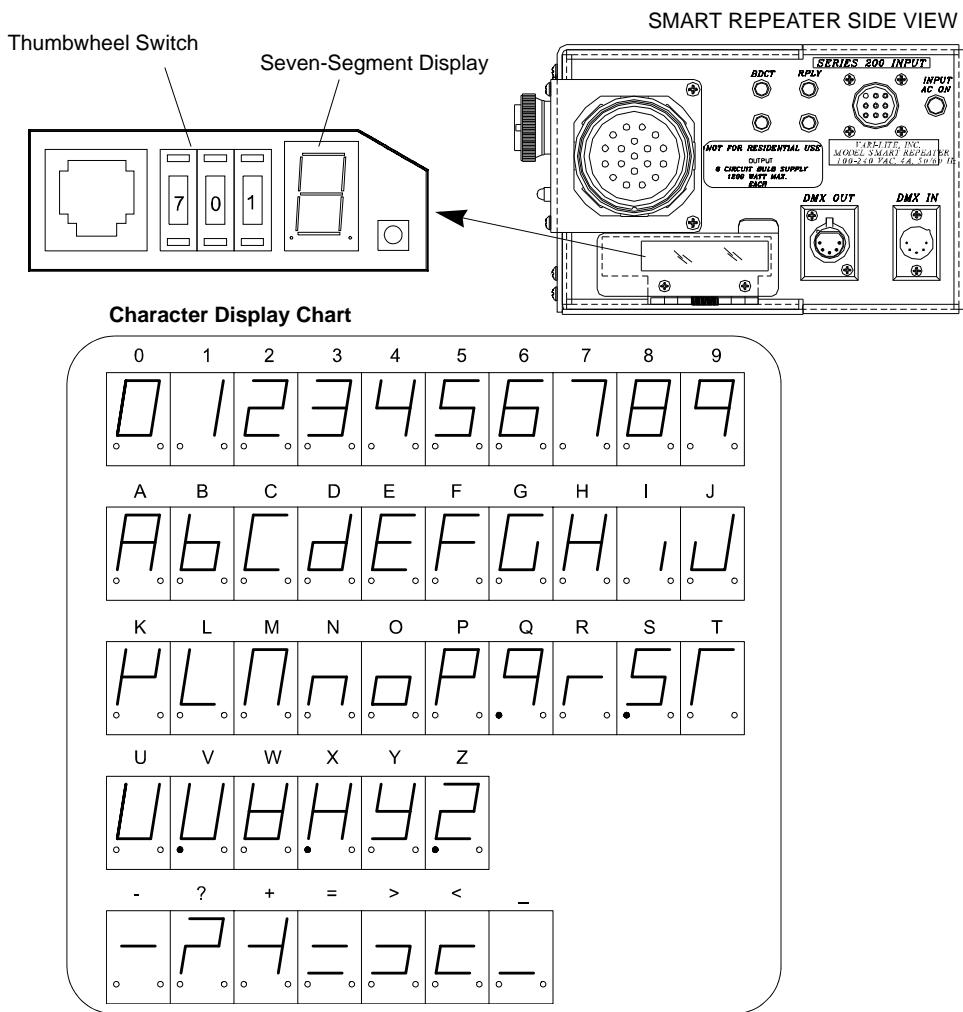

Figure 2-1: Smart Repeater Switch and Display
The Smart Repeater thumbwheel switch is used to control the test software (**Figure 2-1**). The switch notifies the unit to enter test mode (000), which ports are selected for testing, and which tests to run. It takes about three seconds for the unit to respond to thumbwheel changes, allowing time to enter the numbers for a test before it attempts to read them.
Some letters and numbers displayed on the seven-segment LED display may be difficult to recognize. Valid letters, numbers, and symbols are shown in the previous illustration (**Figure 2-1**). Some characters, such as U and V, are identical except that a dot is lit below one character to distinguish it from another (note dot under V).